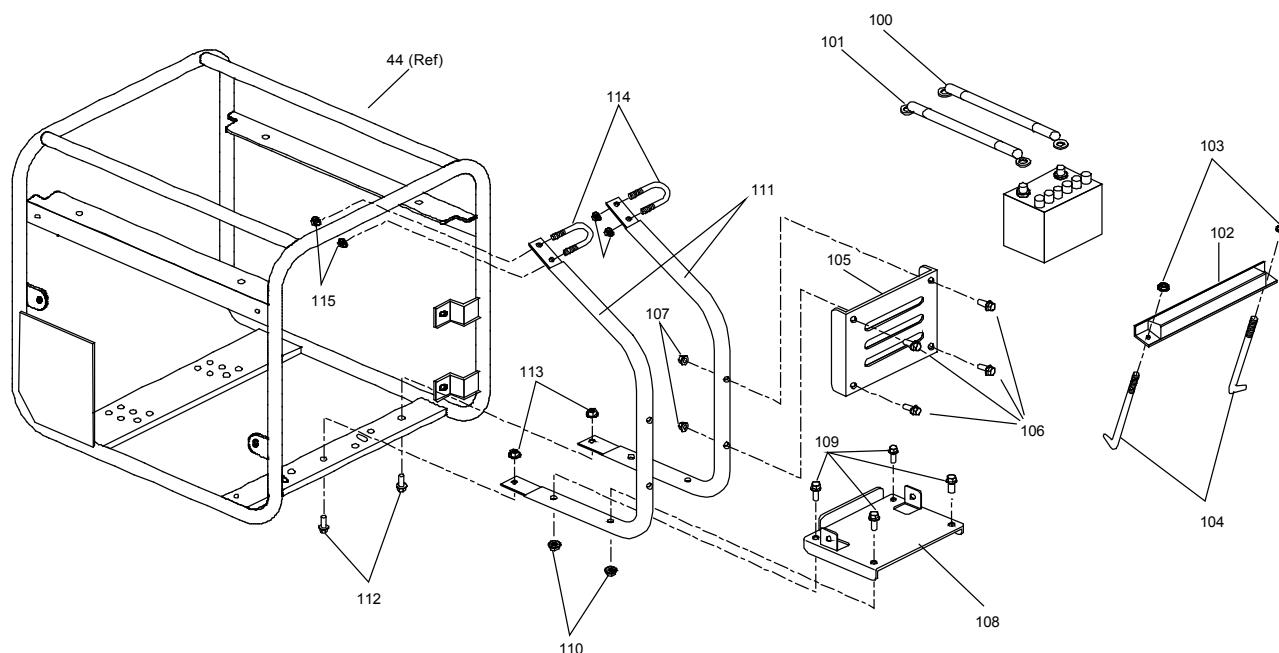

Figure 6-2: Battery Enclosure Components
- B. Refer to Figure 6-2, **Replacement Parts** section. Remove bolts (112) and nuts (113) from frame (44).
- C. Remove nuts (115) and U-bolts (114) from frames (111). Remove entire battery enclosure unit and set aside for installation later.